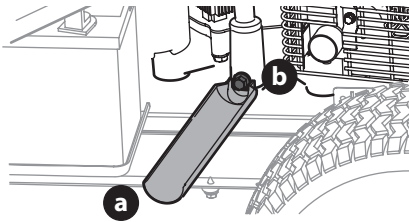
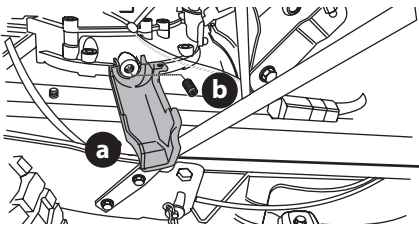

Figure 27
Figure 28
5. Snap the small end of oil drain sleeve (a) onto the space provided around the oil drain plug (b). See Figure 27 or Figure 28 for the two possible oil drain sleeves and refer to the applicable image for your riding mower.